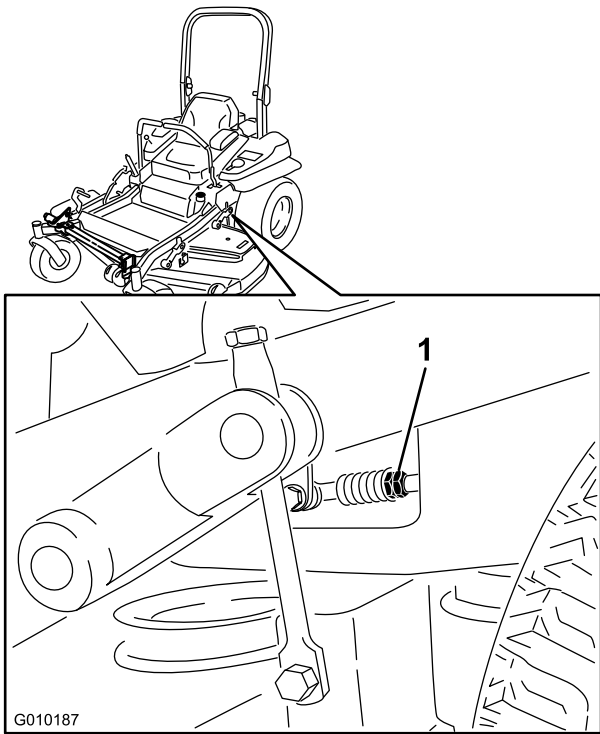

Figure 86
11. Adjust the pump control rod lengths by rotating the double nuts on the rod in the appropriate direction until the wheels slightly creep in reverse (Figure 86).